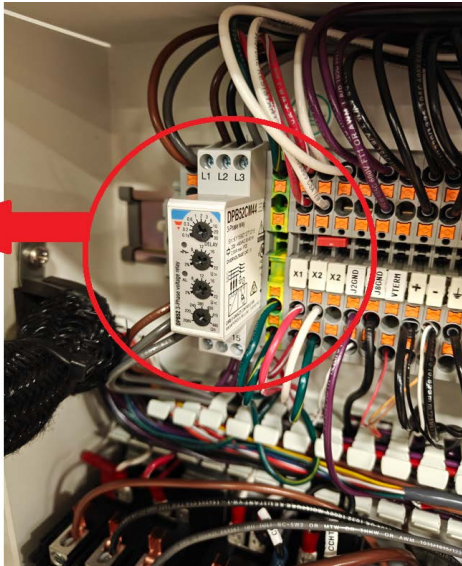

Figure 41. Voltage Selector
- Locate the mains nominal voltage dial knob in the electrical box as shown in **Figure 41** and adjust for 50Hz and 60Hz as mentioned below.